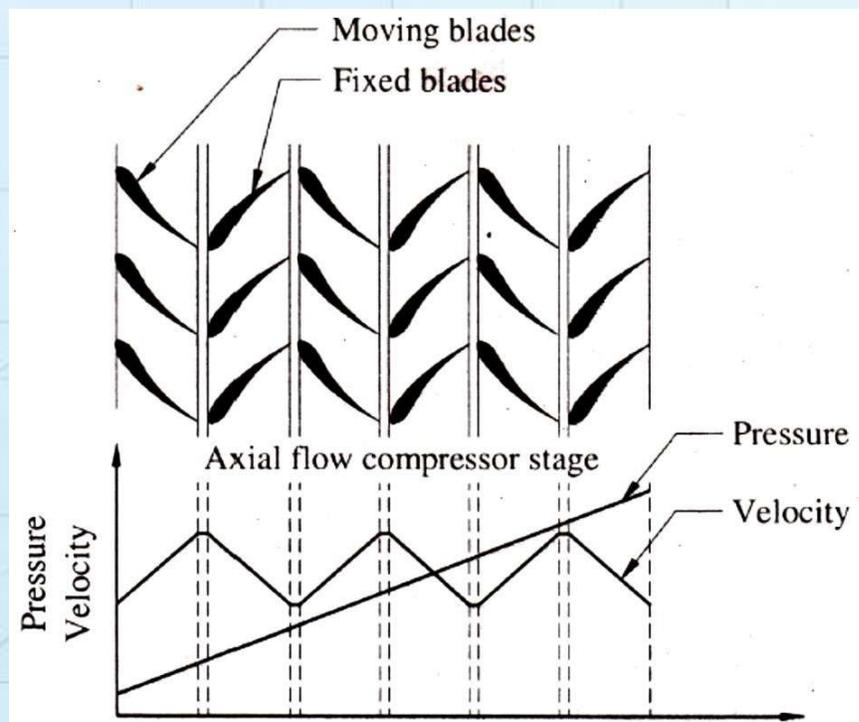

Fig.7.2 – Velocity and pressure variation in axial flow compressor
- ▶ The *absolute velocity of air increases* due to work input to the moving blades through the rotor shaft. (Fig. 7.2)